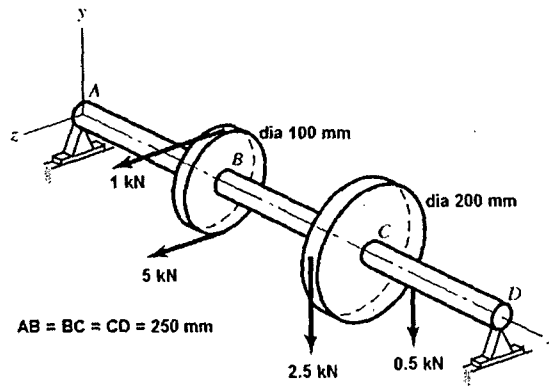

Figure 1
- 11 A shaft made of 40C8 steel is used to drive a machine. The locations of bearings A, D and the pulleys B, C and their sizes, belt tensions when the shaft rotates at 1500 rpm are shown in *Fig. 1*. Length $AB = BC = CD = 250$ mm;